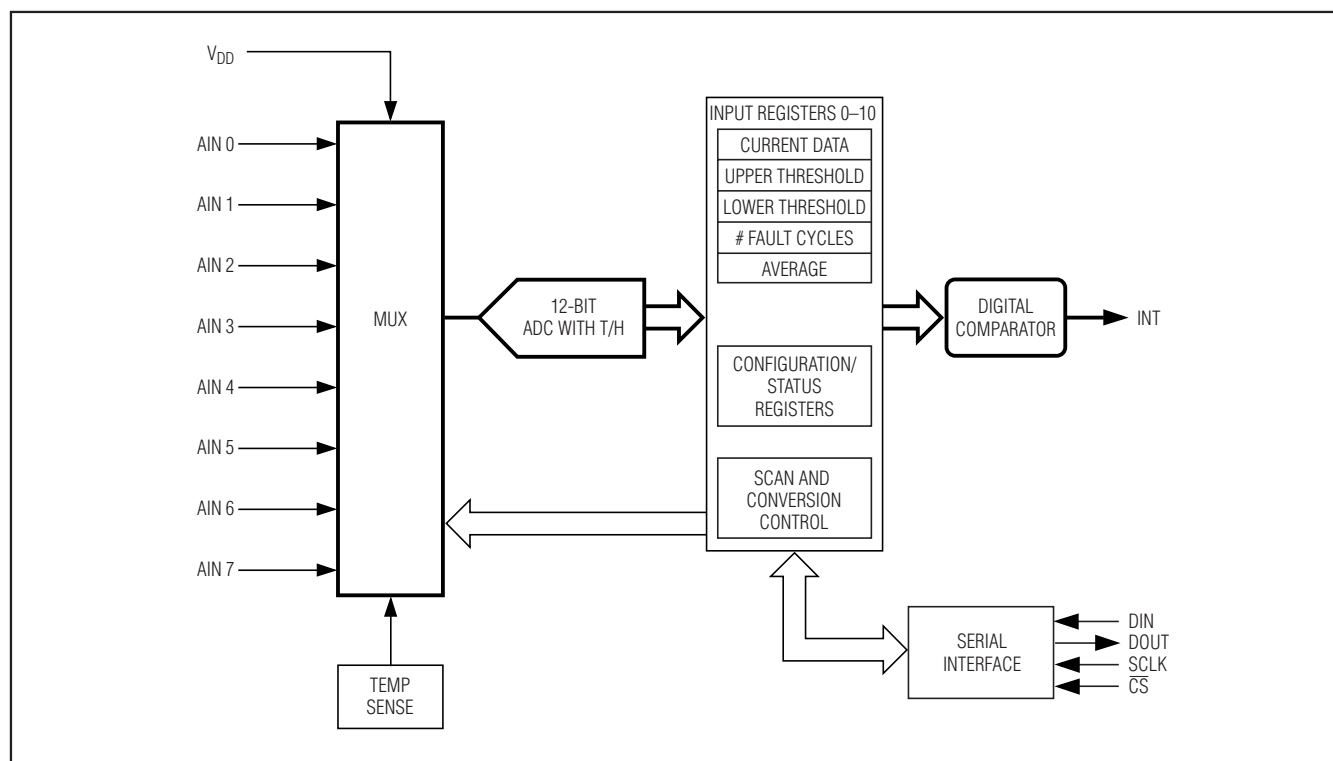

Figure 3. Simplified Alarm Block Diagram of the MAX1153/MAX1154
- Note 7:** See Figure 3 and the Sampling Error vs. Input Source Impedance graph in the *Typical Operating Characteristics* section.
The MAX1153/MAX1154 are precision-monitoring integrated circuit systems specifically intended for stand-alone operation. They can monitor diverse types of inputs, such as those from temperature sensors and voltage signals from pressure, vibration, and acceleration sensors, and digitize these input signals. The digital values are then compared to preprogrammed thresholds and, if the thresholds are exceeded, the processor is alerted by an interrupt signal. No interaction by the CPU or microcontroller (μC) is required until one of the programmed limits is exceeded (Figures 3 and 4).